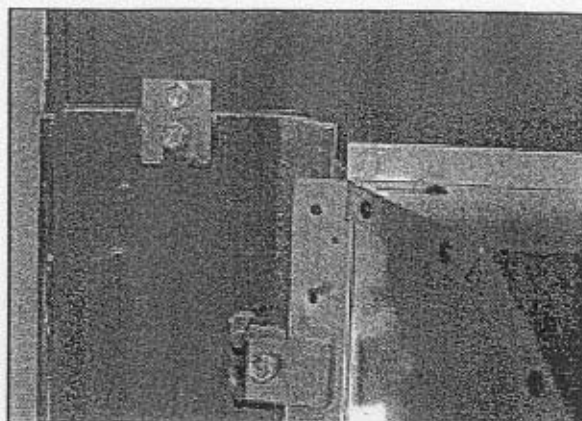

Figure 10i
E. Place the upper panels on appliance, placing top clip over bolt on each side panel. See Figure 10i. Tighten all brackets and clips.